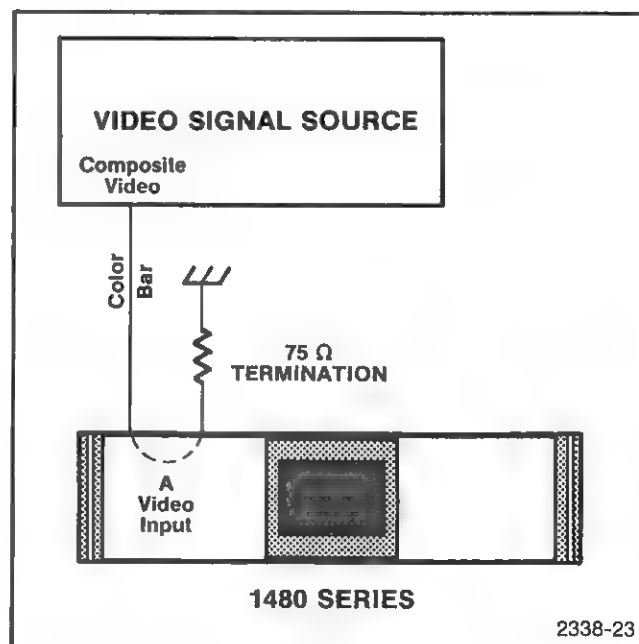

Fig. 5-1. Initial connections for 1480-Series performance check.
a. Connect the video signal source to the 1480-Series Video INPUT A Connector and terminate the loop-through connector into 75 Ω . See Figure 5-1.